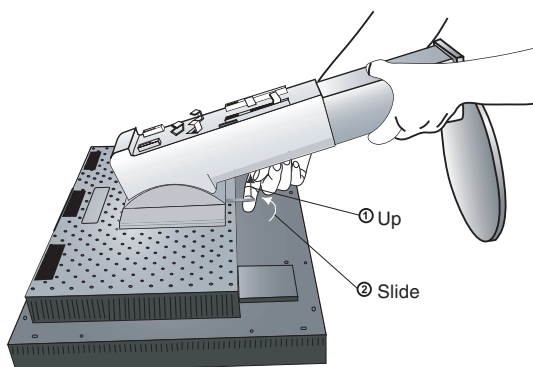

Figure S.2
5. Place one hand around the base and one hand on the Quick Release Lever. Move the Quick Release Lever in the direction indicated by the arrows (**Figure S.2**).